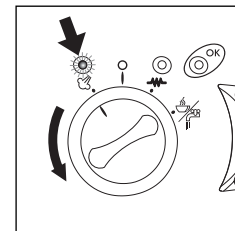

fig. 19
2. Turn the selector knob to the ☘ position (Fig. 19): the steam light will come on ☘ (Fig. 19).